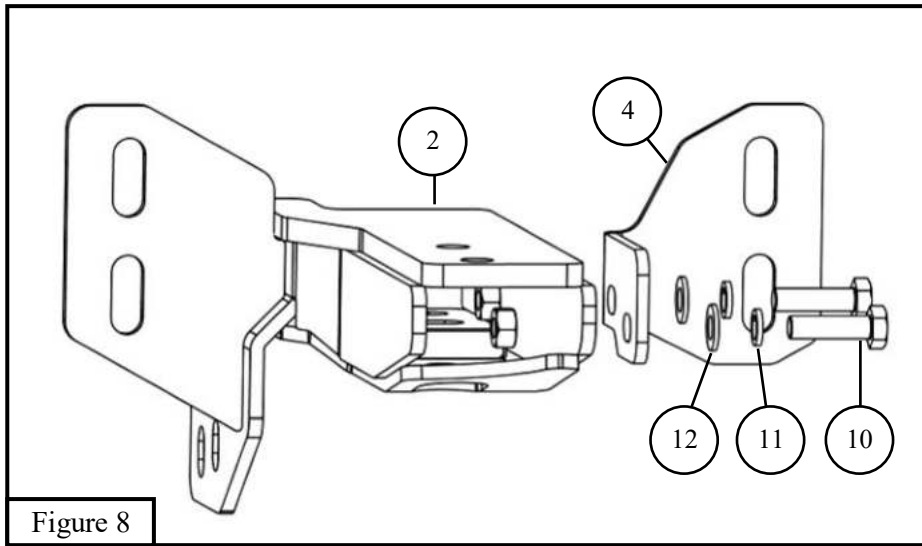
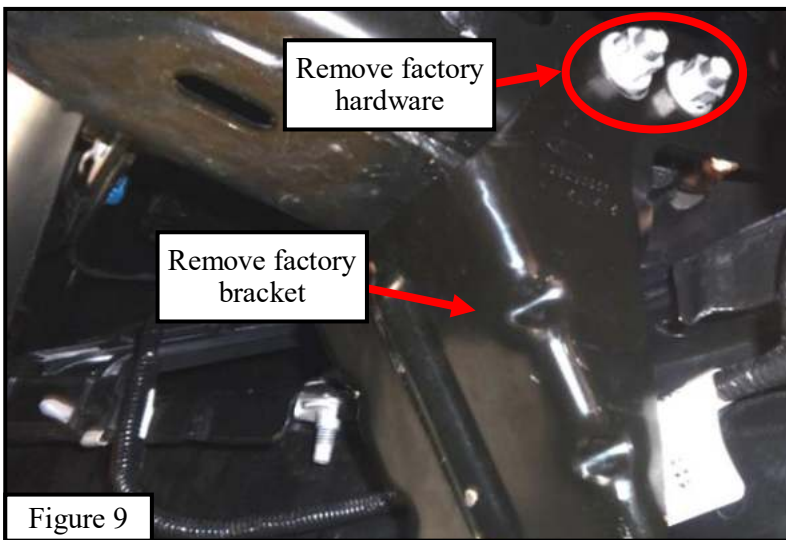

Figure 8
Figure 9
13. Loosely install the driver winch tray mount bracket “B” (**item 4**) onto the driver winch tray mount bracket “A” using the M10 hardware (**items 10-12**). See **Figure 8**.
15. Reinstall the bumper. Attach the bumper to the winch tray mount brackets using the factory bolts and M12 hardware (**items 7-9**).
16. Trim the bumper panels. See **Figure 9**.
16. On each side of the truck, remove the factory bracket and hardware shown in **Figure 9**.